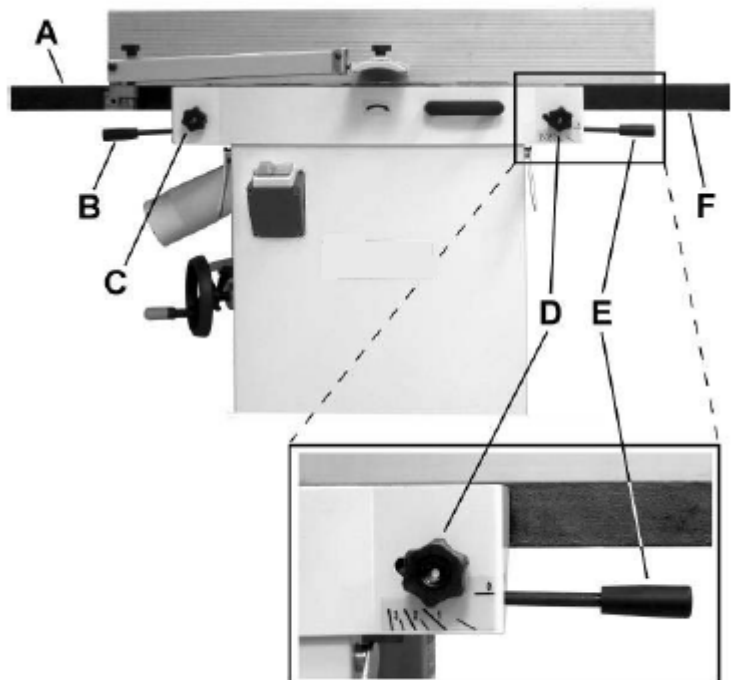

Figure 6
Referring to Figure 6:
5. Place a straight edge (D) across the front of the outfeed table (F) and extending over the infeed table (G). Note the position of the infeed table (G). Note the position of the straight edge in Figure 6 with respect to the fence (H).
6. Raise the infeed table (G) until it contacts the straight edge (D).